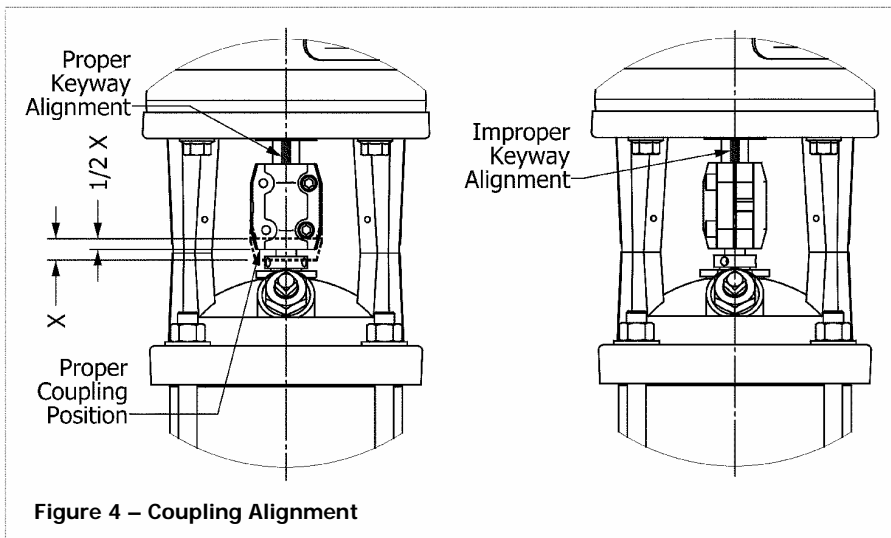

Figure 4 – Coupling Alignment
5. Locate shaft keyway in center of Coupling (See Figure 4) and maintain this position, then snug up Fasteners evenly. Check gap between coupling halves to be sure it remains even on both sides. Torque Fasteners to the following specifications.